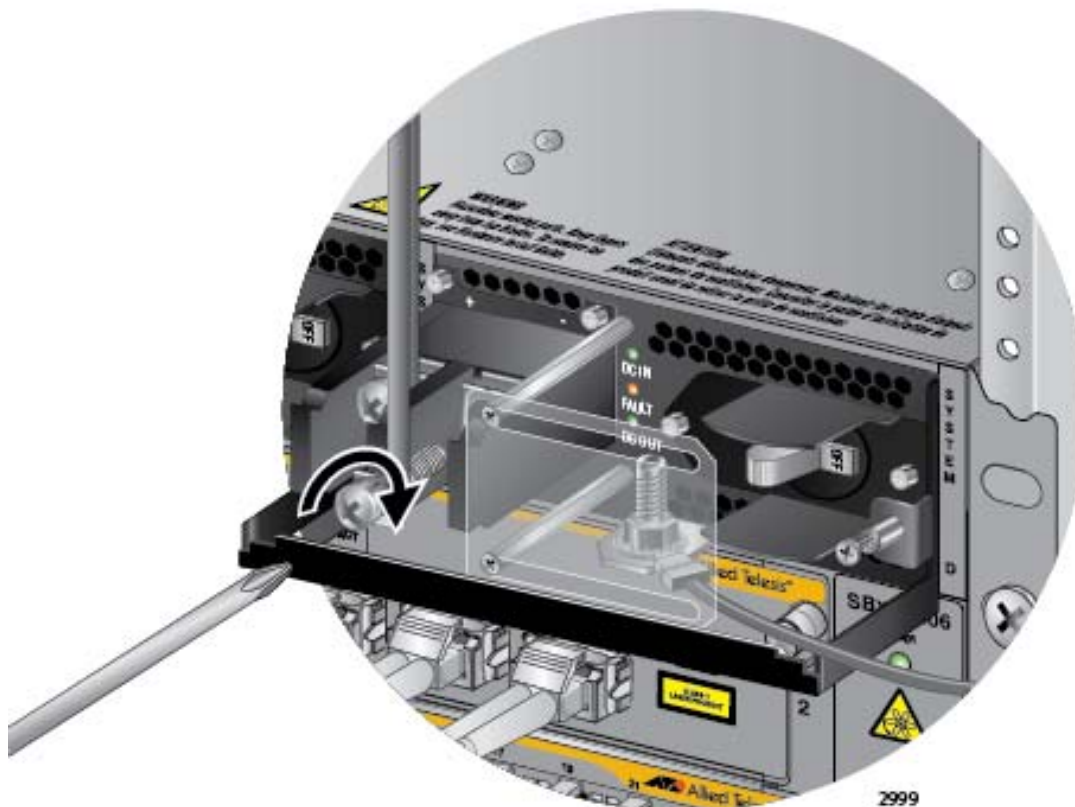

Figure 150. Connecting the Negative Lead Wire
5. Wrap the negative lead wire clockwise around the remaining terminal screw and secure the screw and wire to the negative terminal connection on the terminal block with a #3 Phillips-head screwdriver, as shown in Figure 150 on page 225. The negative terminal is on the right.